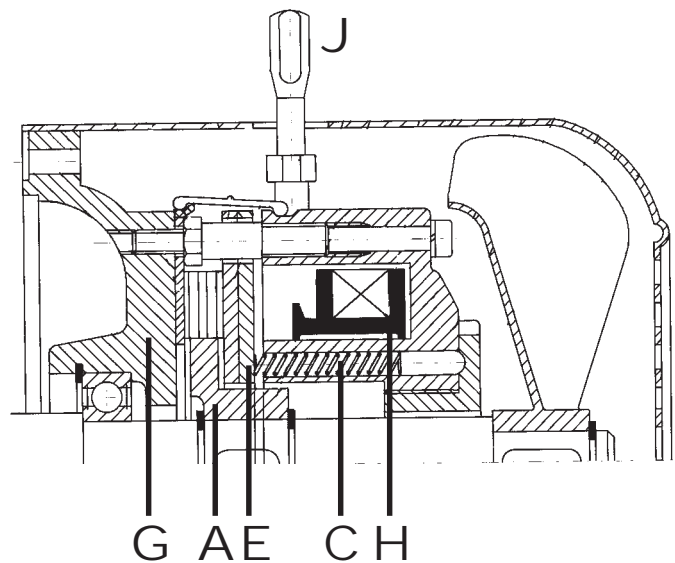
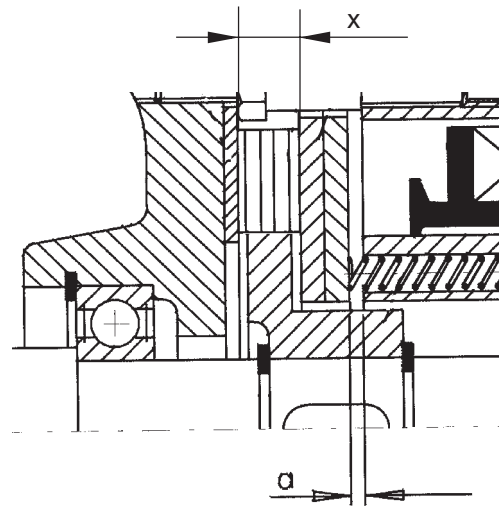

Fig.9-02 Fail safe brake, functioning
Fig.9-03 Motor brake, air gap
The motor contains an electromagnetically operated spring actuated brake (fig. 9-02). The design of this brake is based on the 'normally on' principle. That is to say, in case of switching off or power failure, the brake will be activated and the motor shaft will be subject to braking ($n = 0$ rev/min).
To check the condition of the brake, the width of the air gap 'a' and the thickness 'x' of the friction material on the rotor must be measured (fig. 9-03).
6. Proceed as follows to adjust the width of the air gap 'a' (also see fig. 9-02 and fig. 9-03):